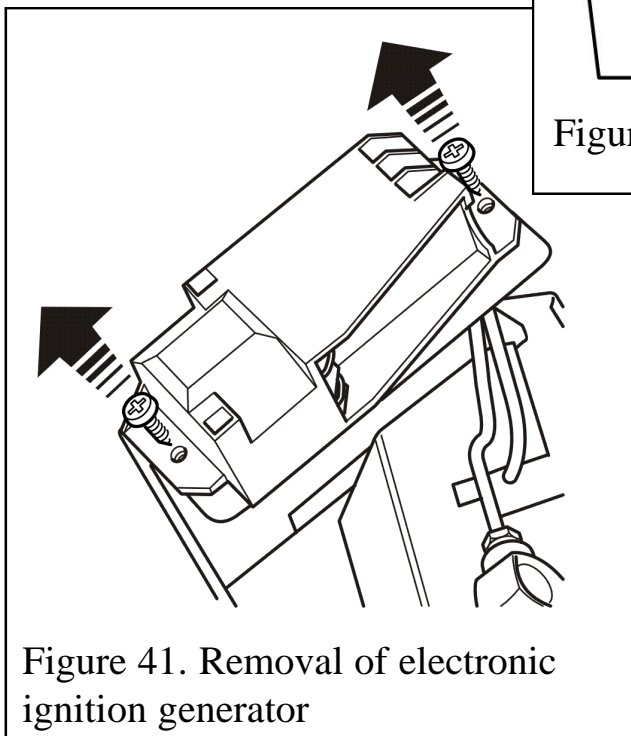

Figure 41. Removal of electronic ignition generator
5. Unscrew the two fixing screws that attach the generator unit to the support bracket. The igniter generator can now be removed (See figure 41).